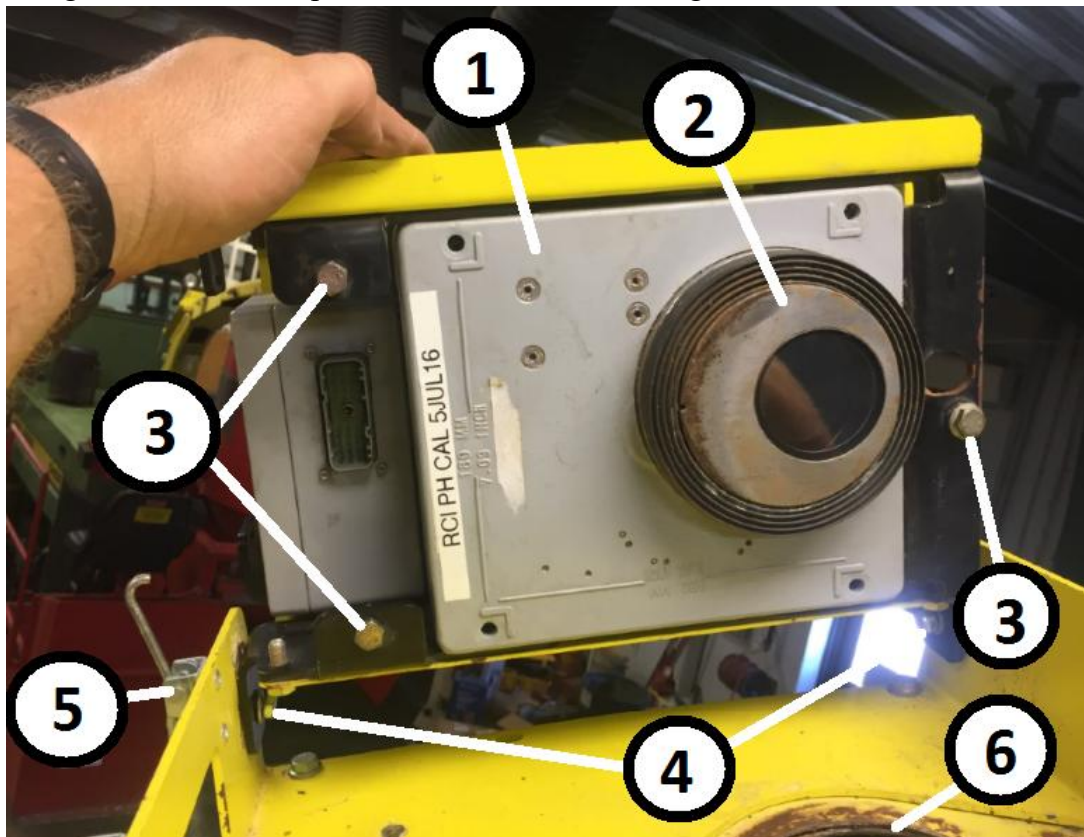

Figure 44. NIR Mounting
1. Connect the NIR to the mount plate of the spout using the appropriate hardware provided. Do not tighten the hardware completely. Only tighten the hardware such that the threads pass through the nylon portion of the lock nut. See Figure 44.
2. Use the stop bolts to adjust the position of the NIR. Once the bolts are set for the season, they should not require regular adjustment. However, it is important to check the NIR lens alignment inside the spout before each trial. See Figure 44.
See Figure 44.